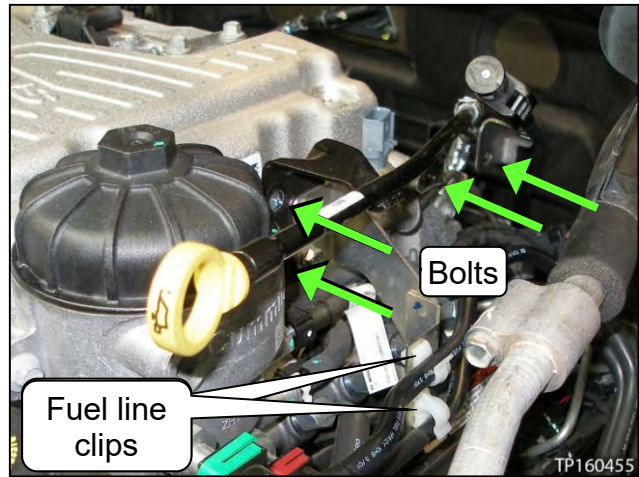

Figure 22
b. Unclip the fuel lines from their clips (see Figure 22).
c. Remove the four (4) bolts where shown in Figure 22.